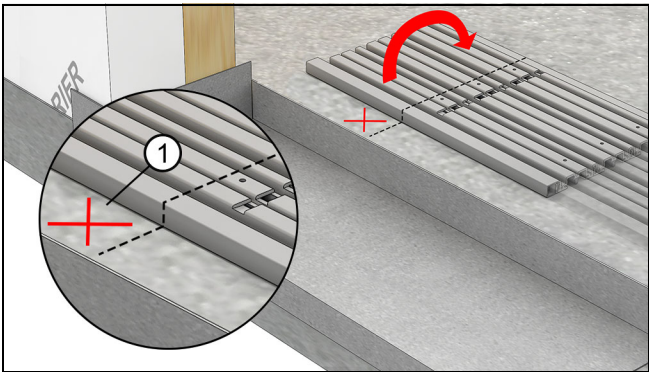

Figure 5
2. Temporarily place the HP sill component next to the opening. Mark the location of the holes on the RO subsill. This will help you locate the counter-shims. See Figure 5.